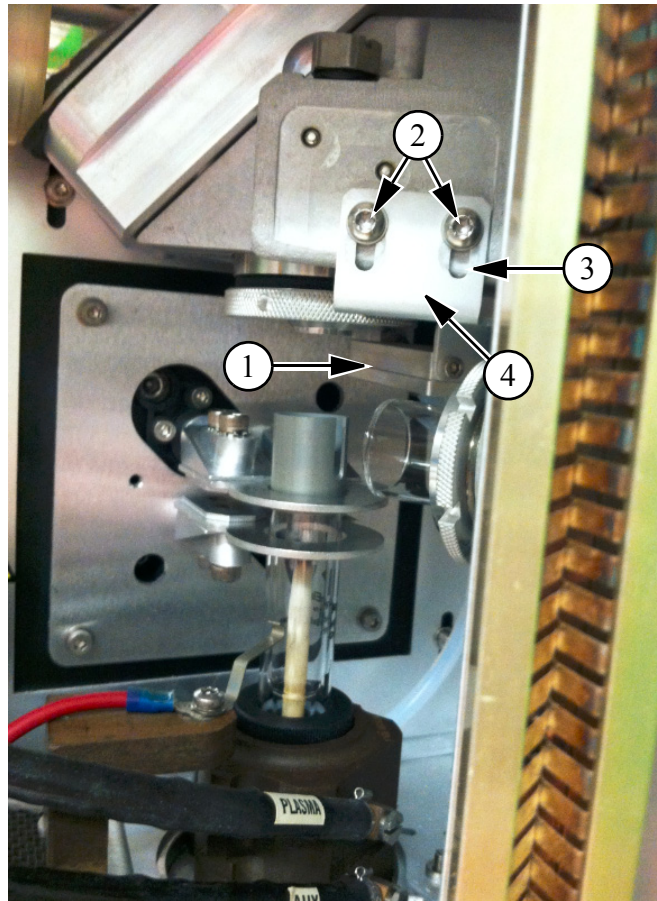

Figure 5-15 **Location of Shear Gas Nozzle**
1. Place the shear gas assembly back into position. Insert the two screws into the slots on the bracket. Make sure the screws are located at the top of the slot before tightening with the T20 Torx screwdriver (*see Figure 5-15*).